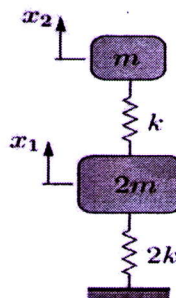

Fig. 1
- 15 a) Determine expressions of equation of motion and natural frequencies for the system shown Fig. 1 (14)